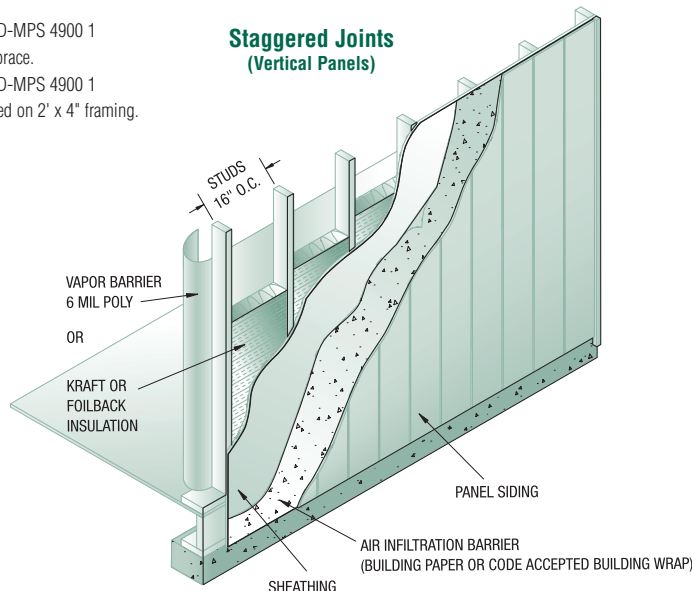

FIG. 5
- A continuous vapor barrier rated 1 perm or less is required across the interior side of all walls to be sided. Examples include 6 mil polyethylene and kraft-backed or foil-backed insulation stapled tightly to the face or sides of the studs. *See Fig 5.*